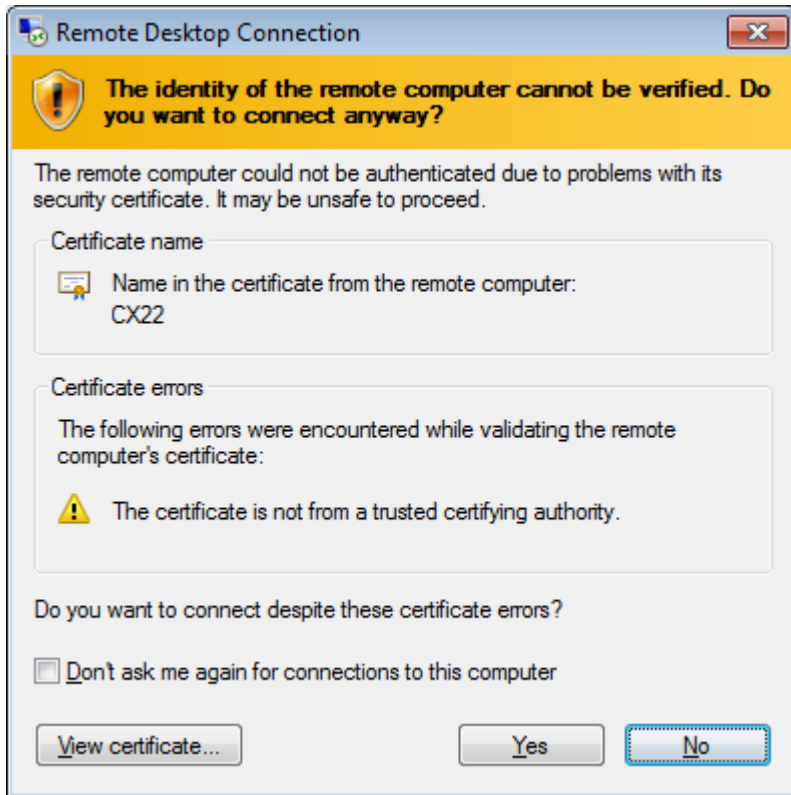

Fig. 6.3 Identity of the remote computer display
- ▶ Depending on the configuration of your Windows operating system, another query as to whether the connection should be set up may be displayed (identity of the remote computer, *Fig. 6.3*). If necessary, activate the option to prevent the query.